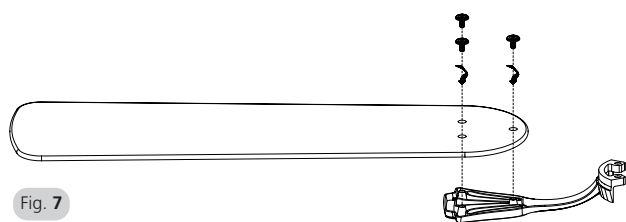

Fig. 7
10. Attach the blade holders to the blades using the 3 screws provided. Refer to Fig 7.